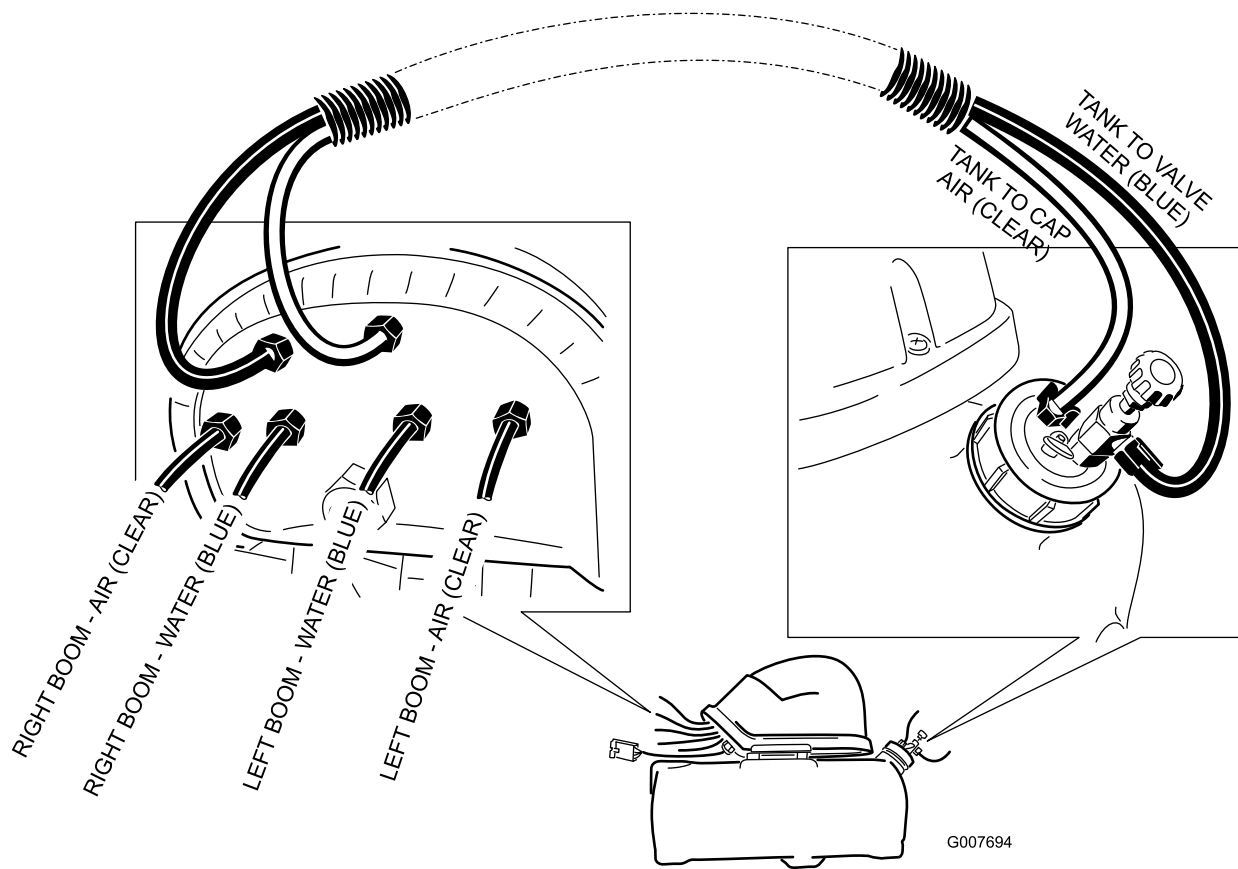

Figure 22
3. The final routing should be as shown in Figure 22.